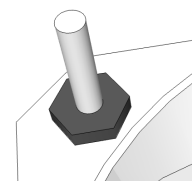

Figure 3. Step 4
4. Unscrew the M5 hex bolt, enclosing the push-rotary shaft (see figure 3).